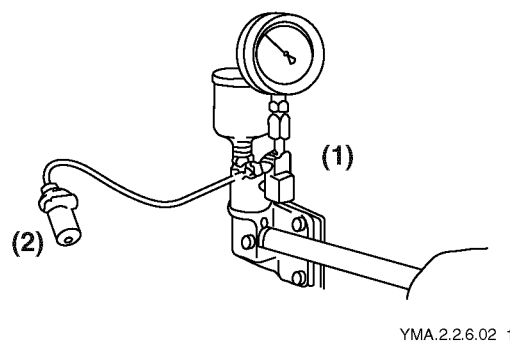

Figure 4-35
Wear protective glasses when testing injection streams from the fuel injection nozzle (Figure 4-35, (2)).
1. Remove carbon deposits from the nozzle (**Figure 4-35, (2)**) before measurement.